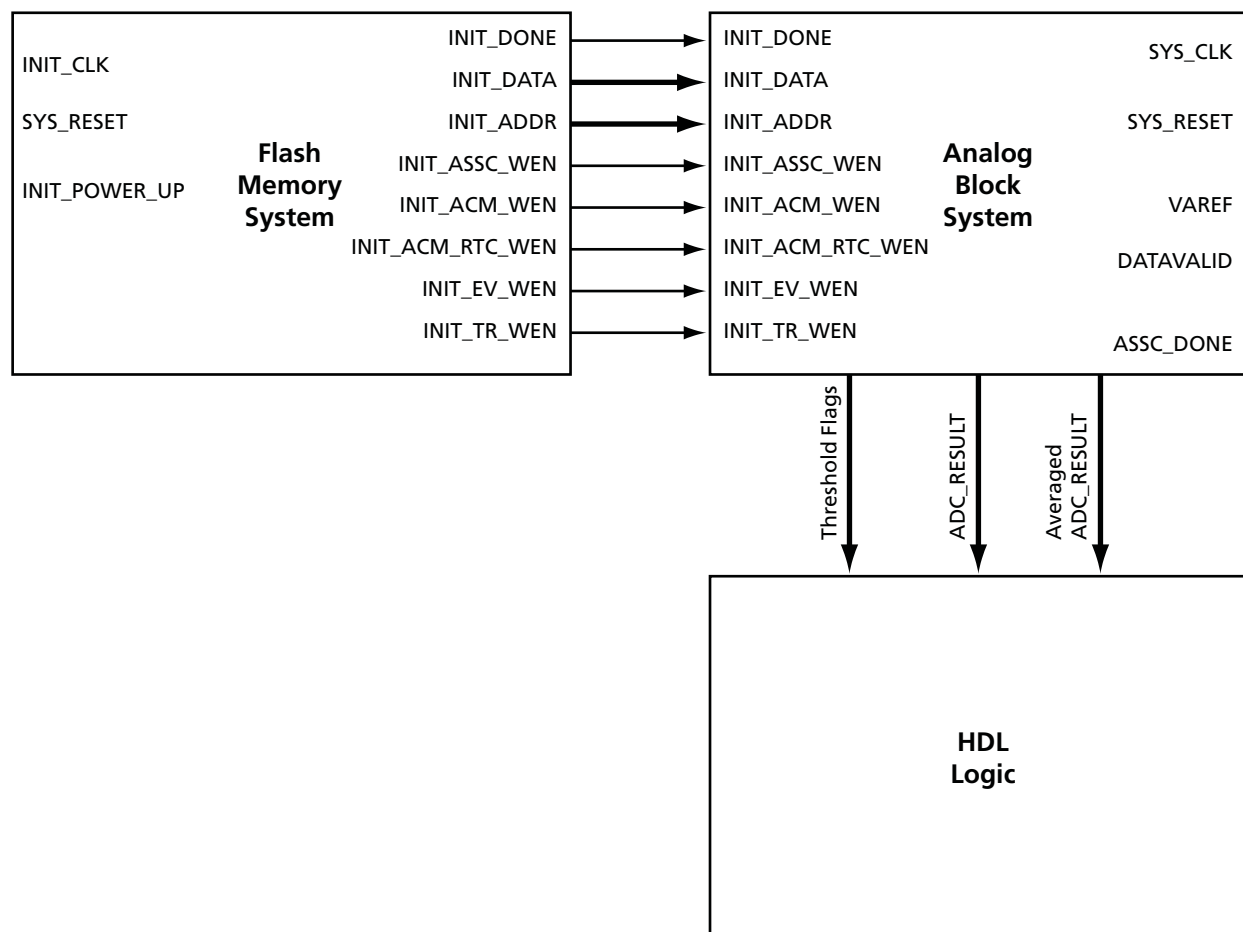

Figure 11-2 • SmartGen Soft IP Design Flow – Generic Connections
The Analog Block (AB) System contains the Analog Block hard IP and the Analog Interface soft IP, which includes ASSC, SMEV, SMTR, and their corresponding SRAM blocks. The Flash Memory System contains the embedded flash memory hard IP block and the interface soft IP, or the Init/Config IP block. Figure 11-2 shows the generic connections between the Analog Block System and the Flash Memory System in the SmartGen soft IP design flow.